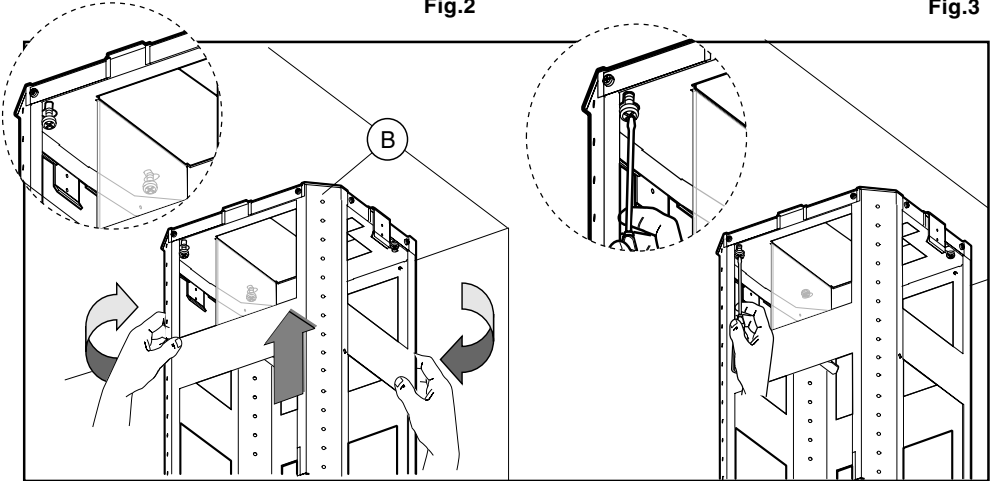

Fig.4
- Take the upper part of the structure **B** (fig.4) and insert the 3 slots onto the 3 screws that are not completely tightened.
Rotate slightly to fit (fig.4).